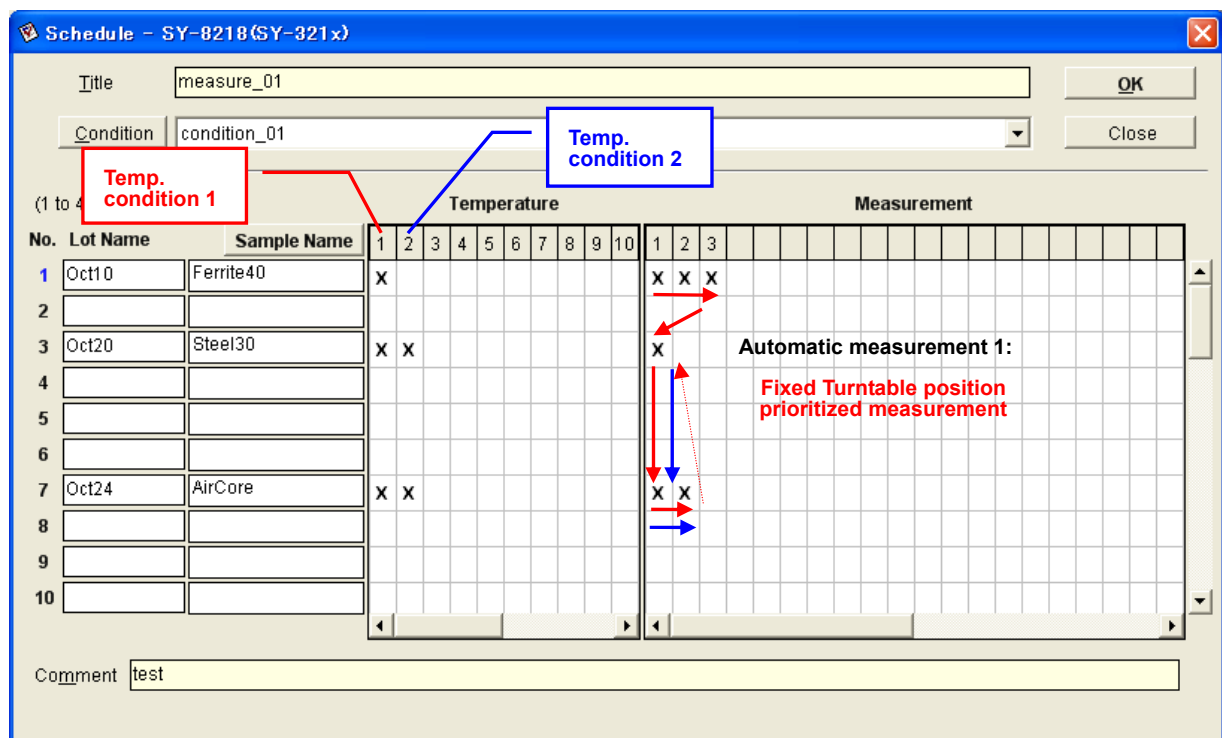

Figure 3-56 Measurement order of automatic measurement 1
- ① Automatic measurement 1 gives priority and measures the position fixation of Turntable in the order of Figure 3-56.
Displays the sequence of the measurement schedule described in Figures 3-56 and 3-57 depending on the used schedule file and the selected automatic measurement type.